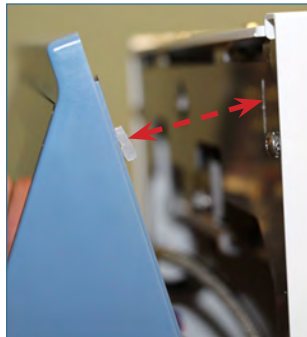
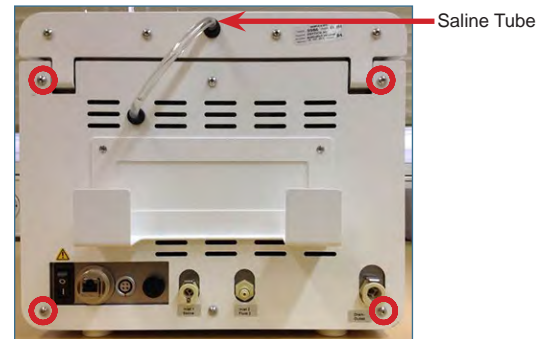

Figure 2
Figure 3
4. Carefully slide the front display panel upward to disengage the brackets (Figure 2) then pull away from the unit to remove. Gently place the display panel in front of the unit taking care not to disconnect the wiring from the circuit board.
5. On the back of the cell washer, disconnect the saline tube from the back side of the lid (Figure 3).
6. Using a 2.5 mm Allen wrench, remove the four (4) screws on the rear panel and remove the panel (Figure 3).
2. Secure the side panel to the rear of the unit with the three (3) screws (Figure 3). Tighten using a 2.5 mm Allen wrench.
3. Reinstall the back panel and secure with the four (4) screws (Figure 2). Tighten using a 2.5 mm Allen wrench.
4. Attach the saline tube to the lid (Figure 2).
6. Loosen and remove the snap ring around the rotor shaft using snap ring pliers (*Figure 2*).
8. Using a T20 Torx screwdriver, remove the three (3) screws which surround the rotor shaft and secure the motor to the mounting plate.
9. Using a 2.5 mm Allen wrench, loosen (do not remove) the screws on the coupling around the rotor shaft. Remove the motor making note of the orientation of the motor prior to removal (*Figure 3*).